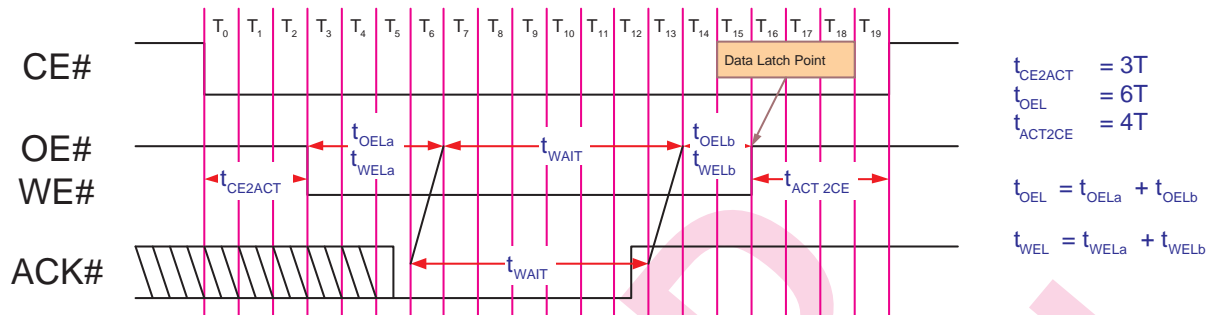

Figure 60: NOR Flash ACK Control Timing
- Figure 60: NOR type flash read/write cycle extended by external ACK